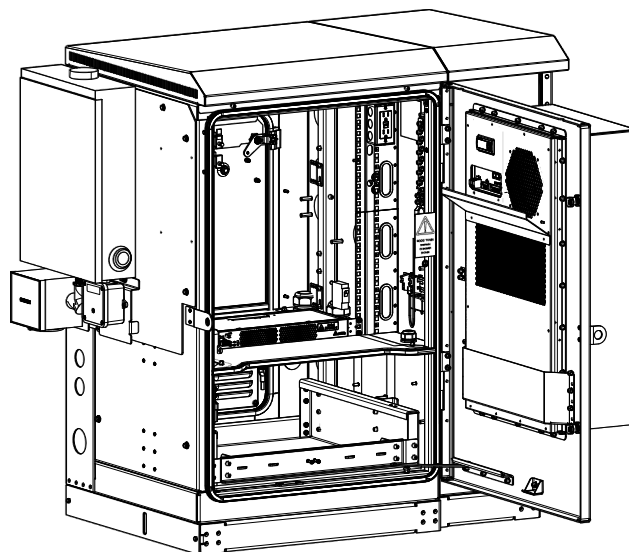

Figure 3. Compartment Views – CommScope Telco AIO Example
2.1.2 Open door with door key, remove the installation kit, and close the door, Figure 3.